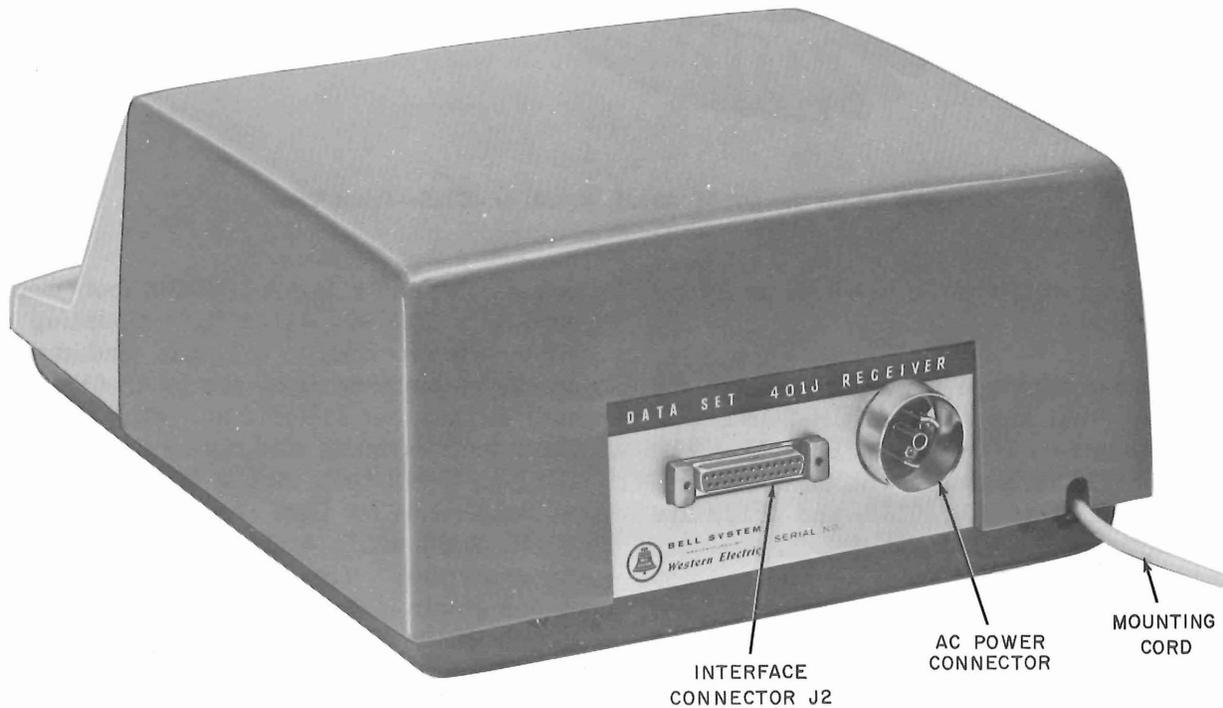

Fig. 3—Data Set 401J-Type—Rear View.
2.05 The business machine connection cord and plug must be supplied by the customer. The business machine connection is made at the data set interface connector (Fig. 3).